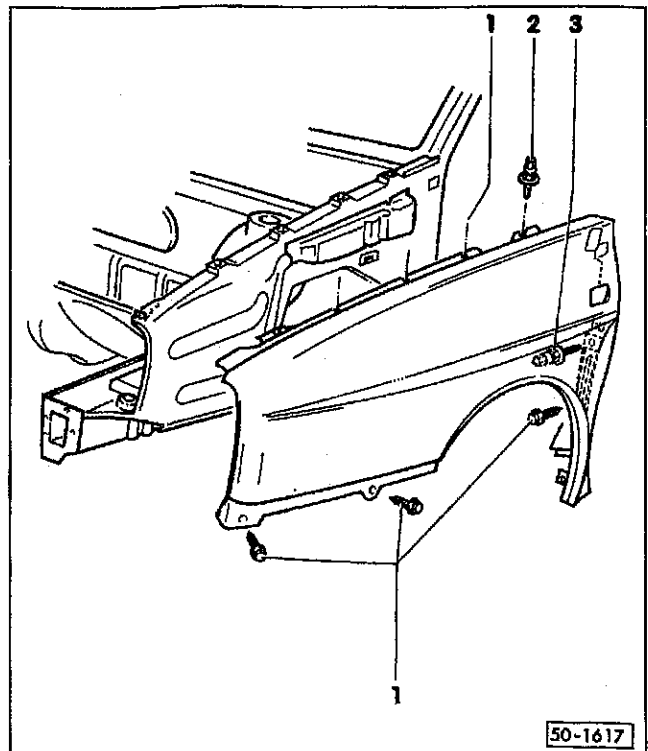

Fig. 2. Front fender attachment bolts (1,2,3).
4. Remove fender mounting hardware. See Fig. 2.